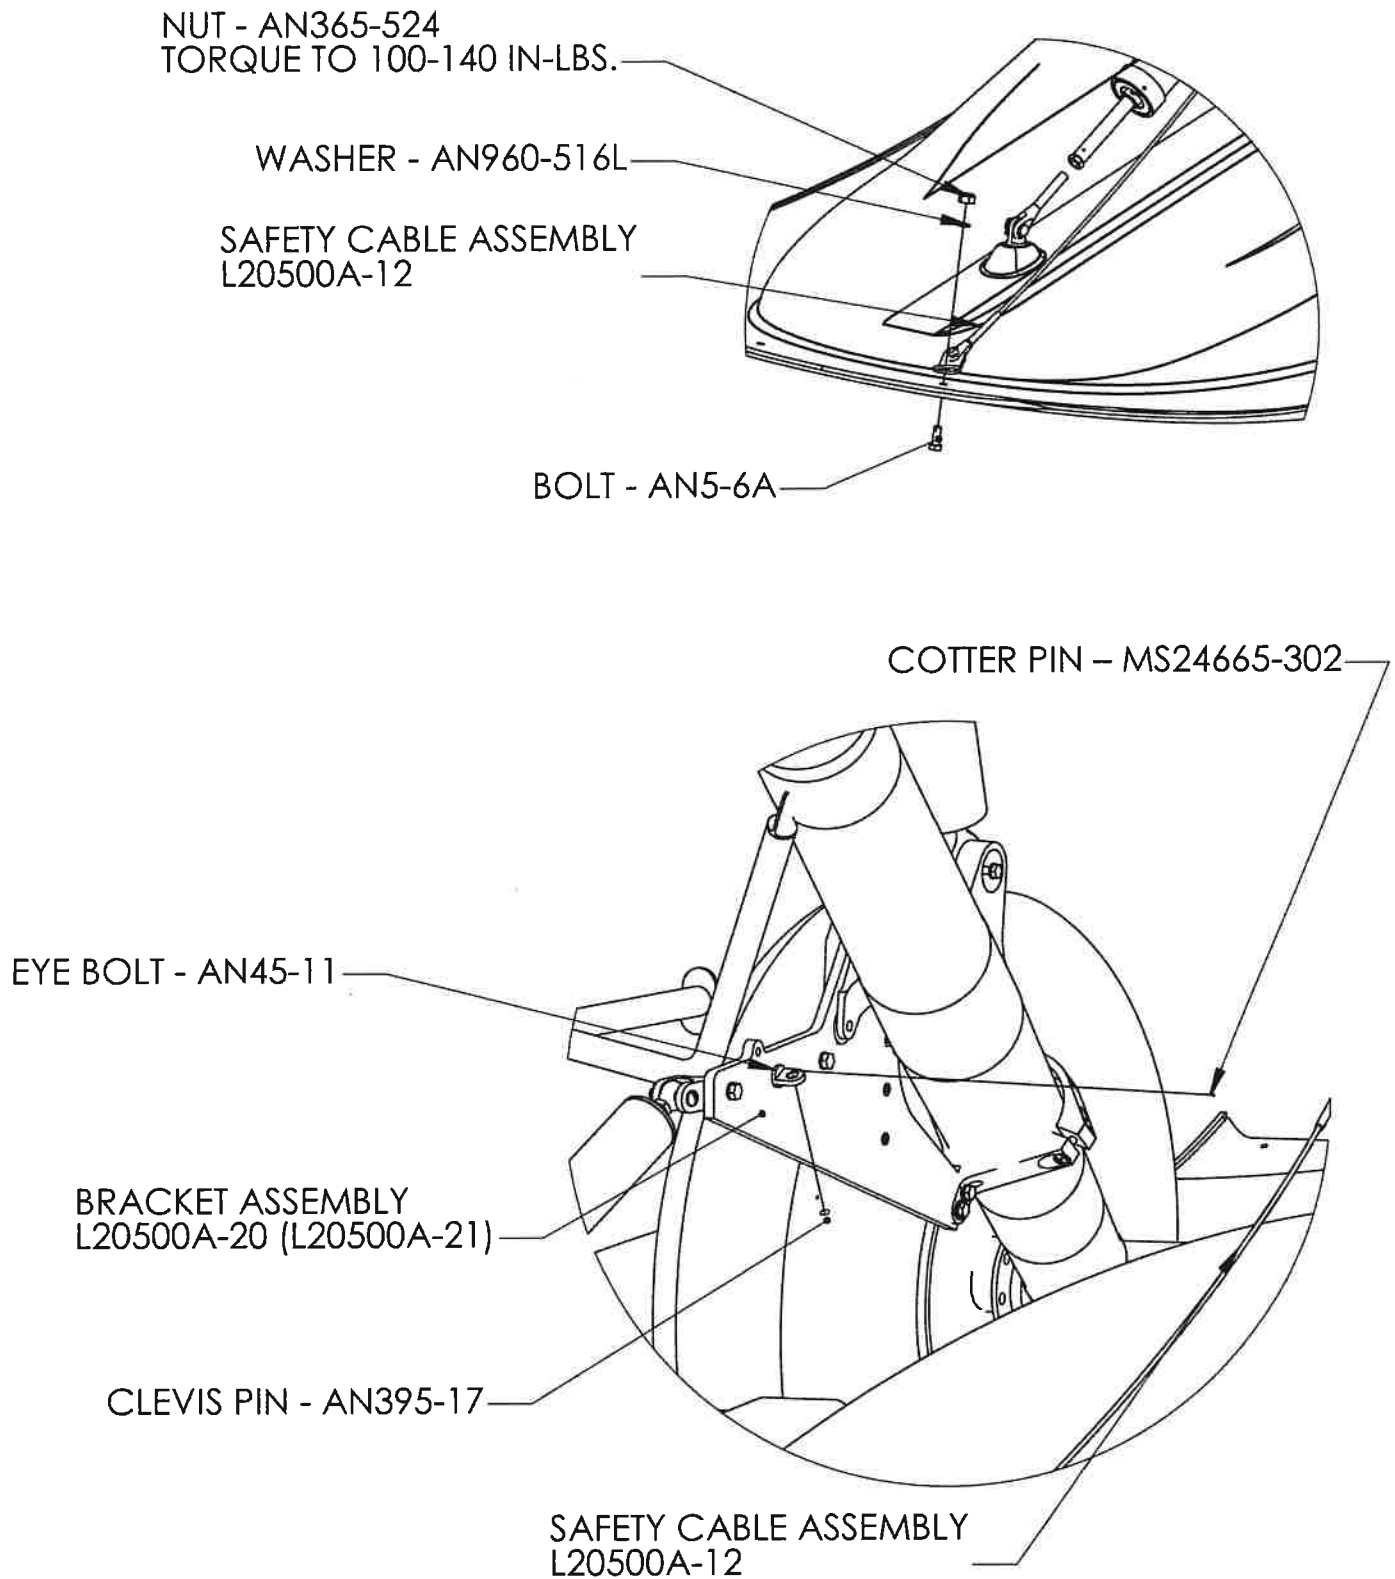

Figure 5.5
52. Install lower end of Safety Cable Assy. (L20500A-12) to ski with Bolt (AN5-6A) Washer (AN960-516L) Nut (AN365-524). *See Figure 5.5*. TORQUE VALUE Install upper end to Eye Bolt (AN45-11) at 2nd hole back on Bracket Assy. (P/N L20500A-20, L20500A-21) Fasten with clevis pin (AN395-17) and secure with cotter pin MS249665-302. *See Figure 5.5*.